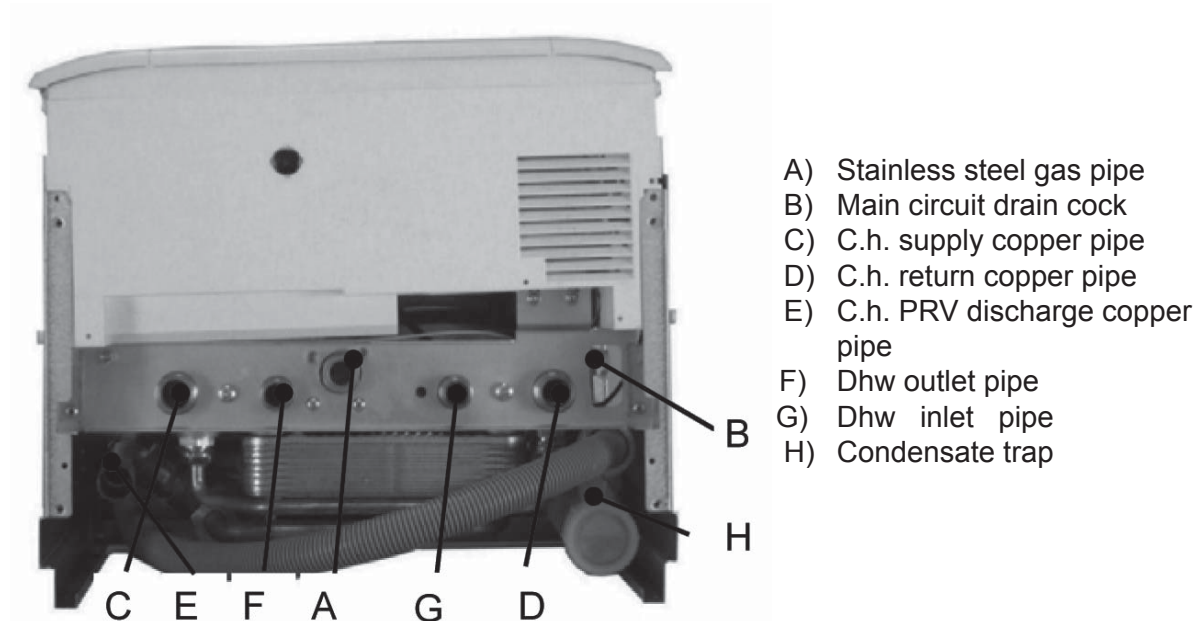

Figure 10.1
The SAVIO Plus Combi is supplied with a 3/4" stainless steel gas pipe (A in figure 10.1), 2 - 3/4" copper pipe (C,D in figure 10.1), 2 - 1/2" (F,G in figure 10.1) located in a plastic bag in the boiler package.
- Remove the protective caps off boiler connections (Figure 10.1).
- Attach the supplied components to the boiler connections (see Figures 10.1). Be sure to use the proper gaskets for the pipe connections.